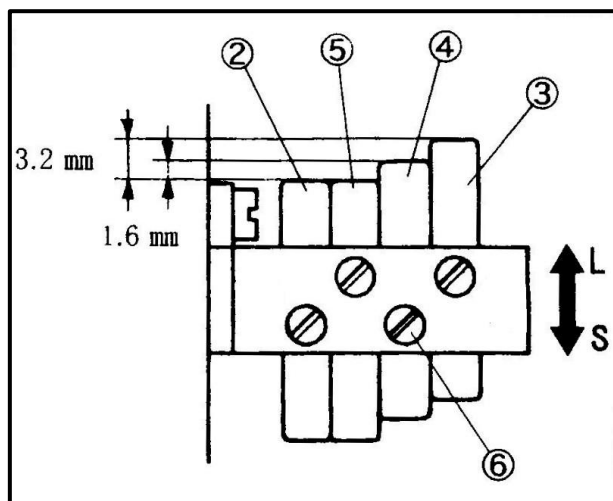

Fig.37
- (2) Set the top of pin $\odot$ even with the needle thread as the fourth right needle. (Fig.37)
- (3) Set the pin $\odot$ 3.2 mm higher than the pin $\odot$.
- (4) Set the pin $\odot$ 1.6 mm higher than the pin $\odot$.
- (5) Set the pin $\odot$ even with or 0.8 mm higher than the pin $\odot$.
- (6) Tighten the screws $\odot$ securely.